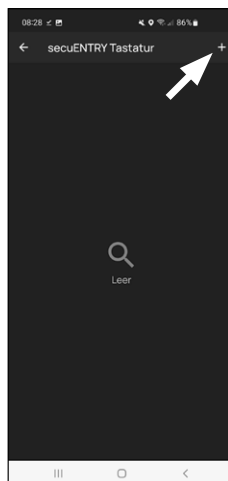

Fig. 6
- A display of already created keypads appears. This is empty during the initial setup. Tap on the "+" in the top right-hand corner to connect a keypad. (Fig. 6).